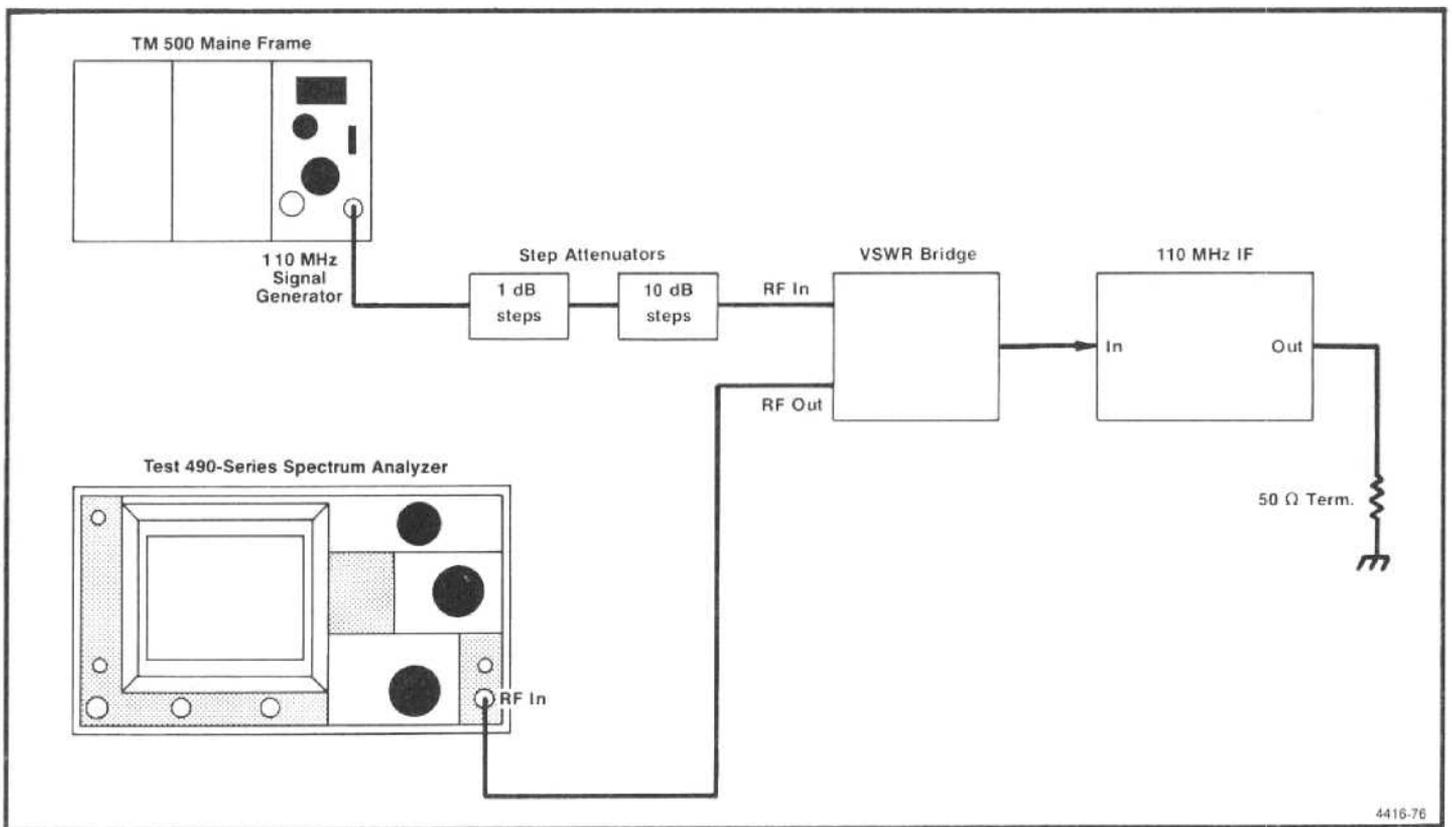

Figure 6-10. Test equipment setup for adjusting return loss in the 110 MHz IF assembly.
1. Test equipment setup is shown in Figure 6-10. The IF assembly must be removed to gain access to the adjustments.